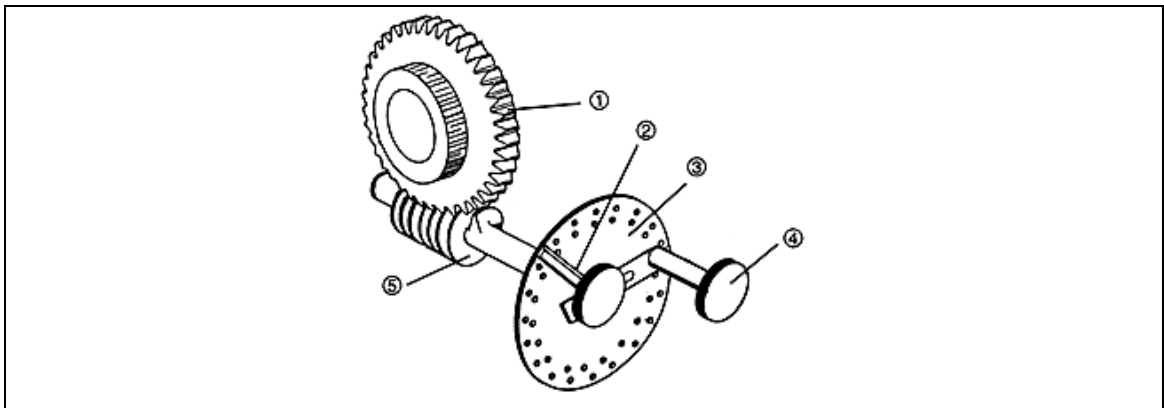

FIGURE 5.5
FIGURE 5.5 shows the functioning components of the dividing head. Label the components numbered 1–5. (5)
5.6 Describe in SIX logical steps how to centre a milling cutter using a dial test indicator. (6)